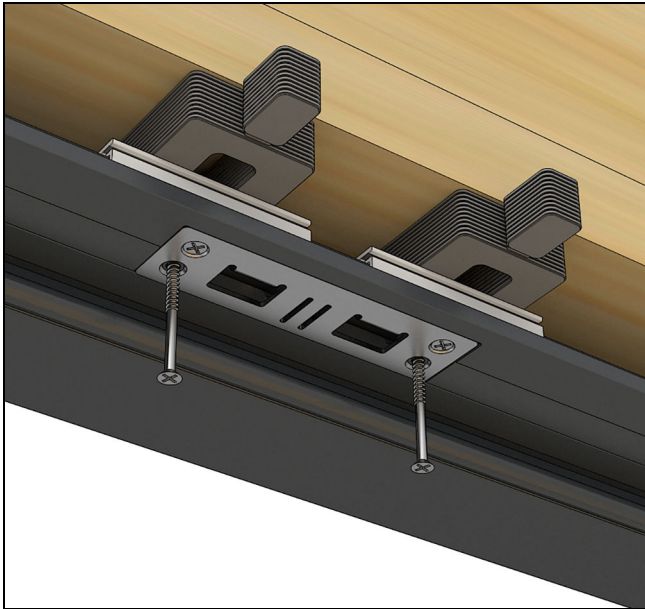

Figure 57
20. Fasten and shim remaining installation screws through the jamb and head jamb and strikes. See Figure 57